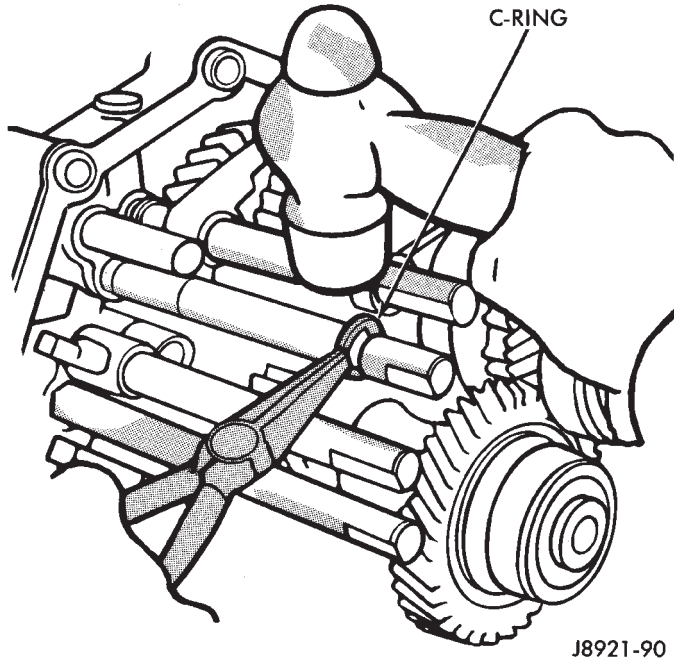

Fig. 90 Installing Shift Rail C-Rings
(20) Install new shift rail C-rings (Fig. 90).